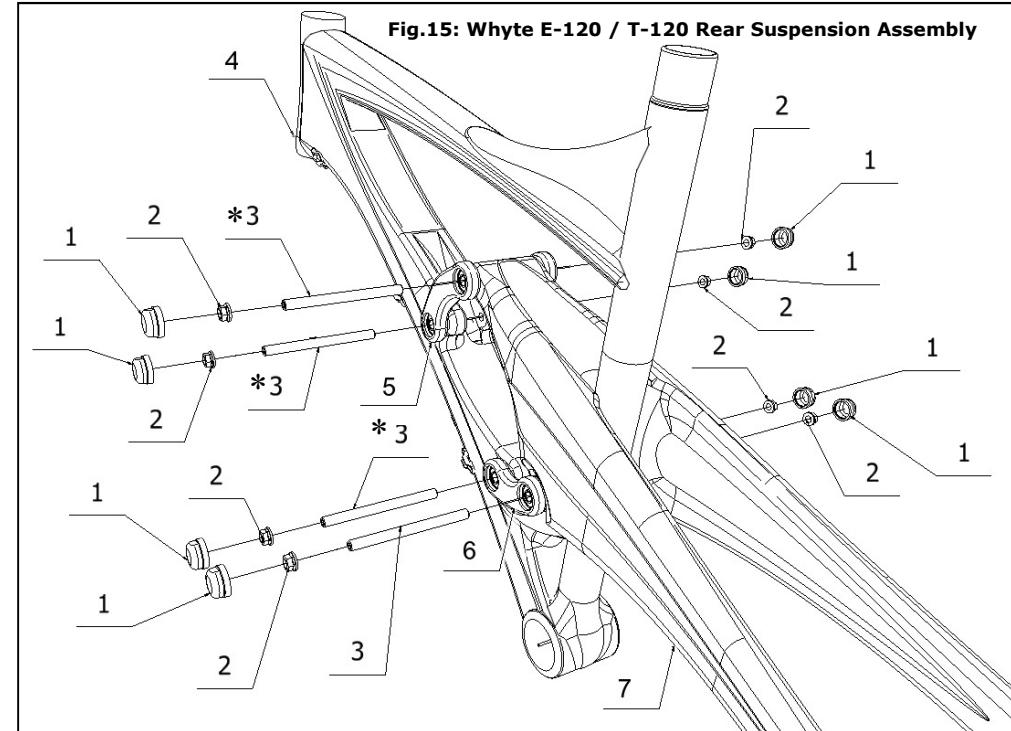

Fig.15: Whyte E-120 / T-120 Rear Suspension Assembly
Reference figure 15. The re-assembly of the rear suspension is basically the reverse of the dis-assembly procedure. Starting with the rear 50mm centre-to-centre Quad Link (6), for E-120 models made prior to 2011 check that the shield washers are in place (see items 2 in figure 9). Then ensure the Quad-Link (6) is correctly orientated (see figure 13) and pass an M8 Shaft (3 or *3) through the Quad-Link (6) and Main Frame (4). Next take the Rear Shock (Not Shown) and assemble the front mount of the Rear Shock using SKF LG/AF anti fret paste on the contacting surfaces, into the forward shock mount of the Mainframe (4).